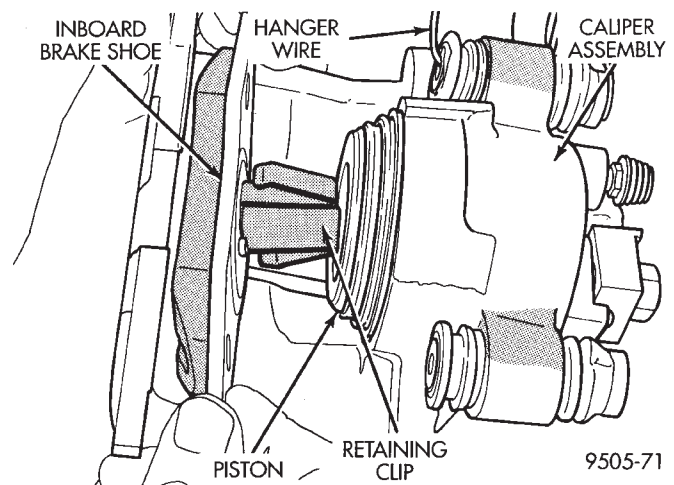

Fig. 89 Removing Inboard Brake Shoe
(9) Pull inboard brake shoe away from piston until retaining clip is free from cavity in piston (Fig. 89).